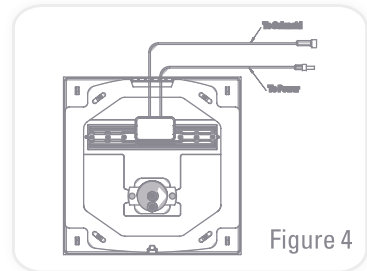

Figure 4
- 1) Connect the electronic unit connector that leads to the solenoid valve to the solenoid connector. Figure 4.
- 2) Connect the electronic unit connector that leads to the power source to the battery box connector. Figure 4.